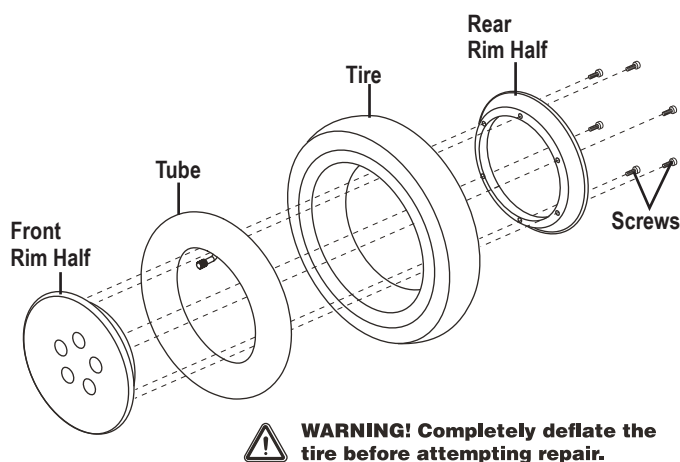

Figure 20. Drive Wheel Disassembled
6. Remove the screws and separate the front and rear rim. **See figure 20.**
10. Reinstall the five (5) lug nuts onto the wheel hub and tighten.